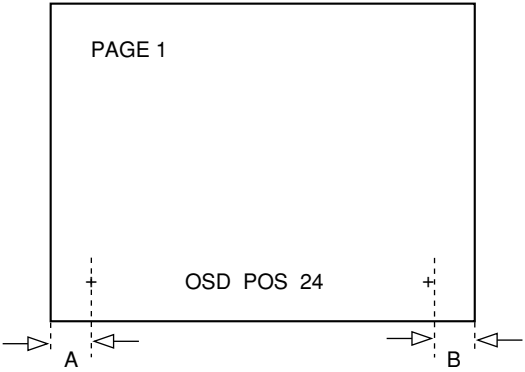

Fig. 1-4
- Use the volume keys on the jig remote controller to adjust the position of the + sign on both right and left sides shown on the OSD screen to be equivalent from the screen edge. A=B Fig. 1-4